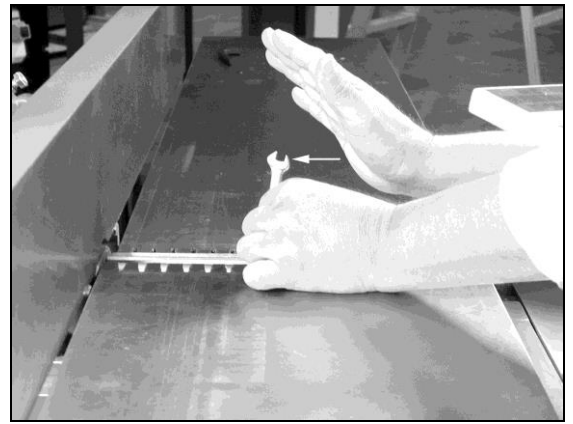

Figure 7
4. Using a 10mm wrench on the knife lock bolt, release the pressure on the knife by turning the bolt into the cutterhead as shown in Figure 7. To prevent injury, hold the wrench with one hand while tapping the top of the wrench with the other hand as shown. Do this for all six bolts.